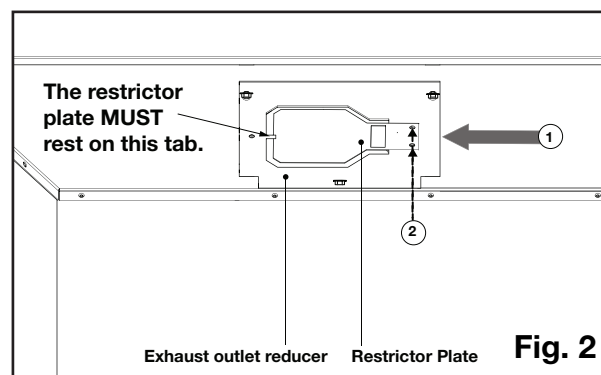

Fig. 2
- Contains adjustable restrictor plate and factory-installed reducer, which prevents flames being small and fast-moving (Fig. 2). For different applications/settings, see page 28 in Installation Manual.